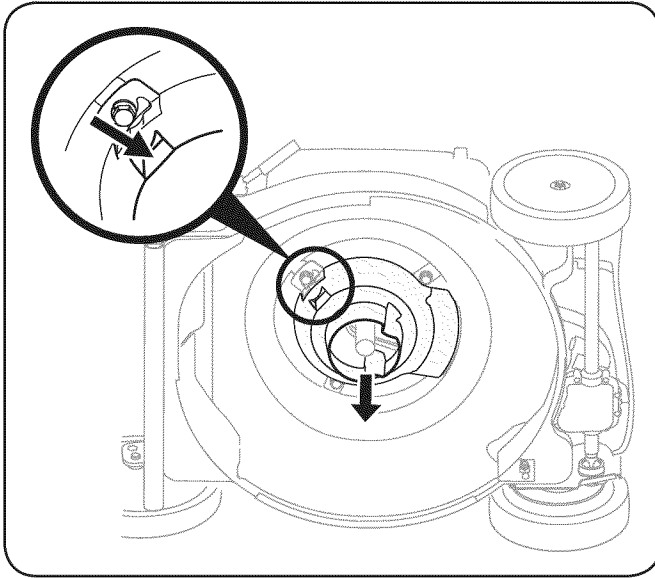

Figure 7-3
4. Press inward on tab on the engine baffle to release it from the baffle bracket. See Fig. 7-3.